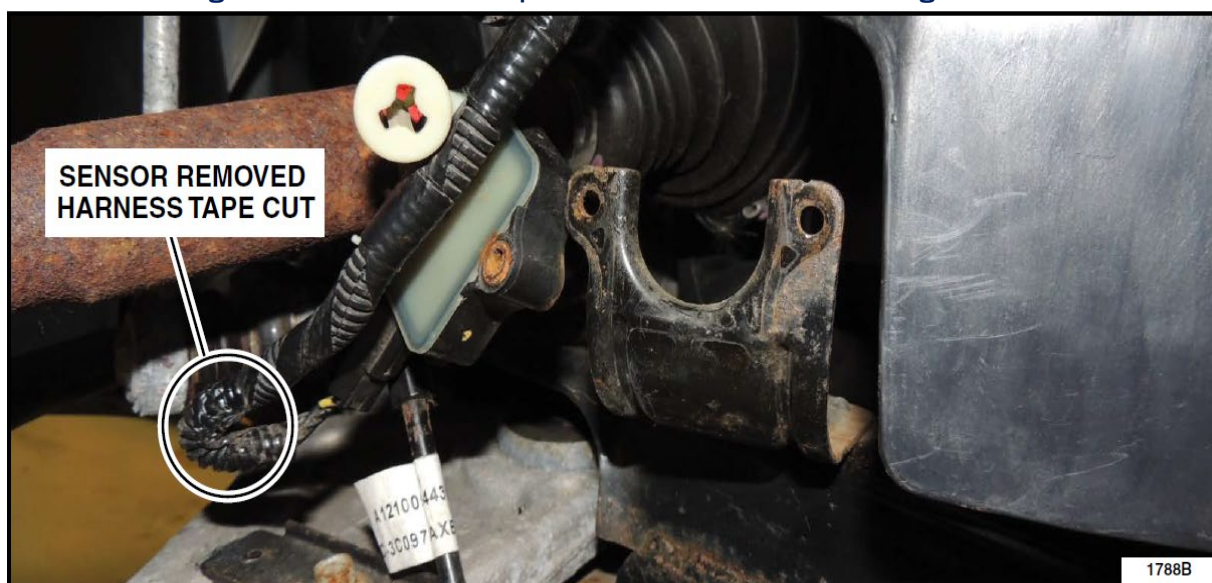

FIGURE 2
5. Remove the nuts and bolts from the ride height sensor and position aside. See Figure 2.
6. Cut the ride height sensor's harness tape at the harness bend. See Figure 2.